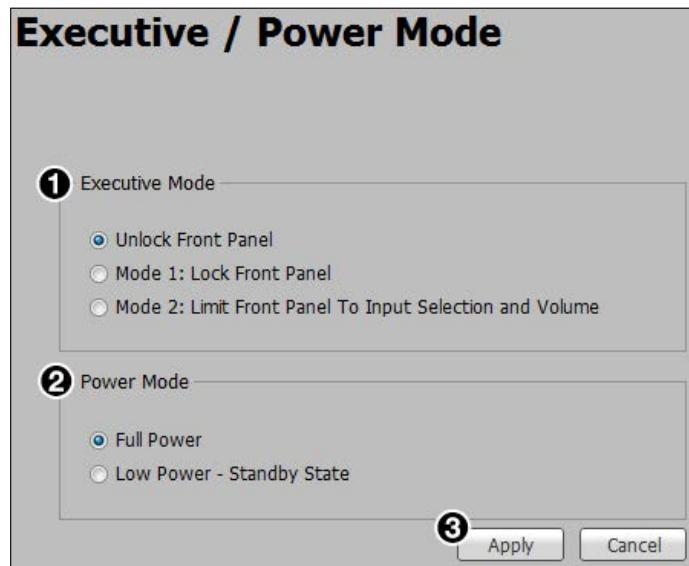

Figure 87. Executive/Power Mode Page
1. Select one of the following radio buttons (see figure 87, 1) to set the Executive mode (see Front Panel Lockout \(Executive Modes\) on page 40).
2. Click the **Apply** button (3).